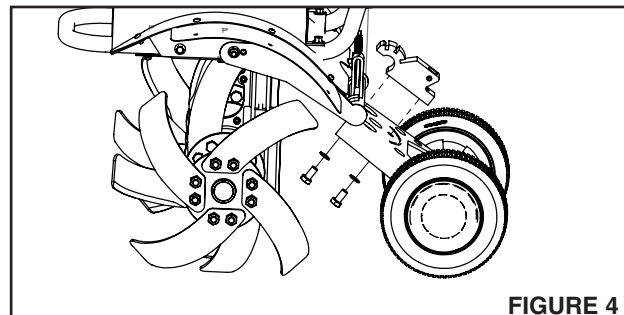

FIGURE 4
- d. Install wheel assembly to machine using (2) M10 x 25 outer hex bolts with (2) M10 external toothed lock washers. **SEE FIGURE 4.**